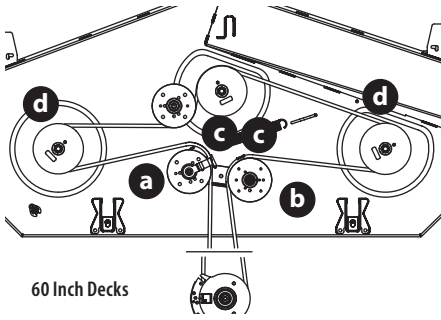

Fig. 49
2. Loosen, but do not remove the hardware on the right (a) and left idler pulley (b). See this page for 42 inch decks (Fig. 46), 46 inch decks (Fig. 47), 50 and 54 inch decks (Fig. 48) and 60 inch decks (Fig. 49 on page 33).